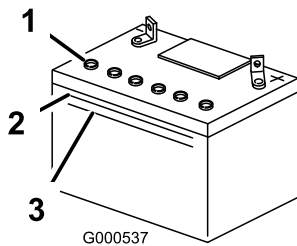

Figure 35
1. Look at the side of the battery. The electrolyte must be at the upper line (Figure 35).
Do not allow the electrolyte to fall below the lower line (Figure 35).
3. Remove the vent caps from the battery (Figure 35).
4. Slowly pour distilled water into each battery cell until the electrolyte level is up to the upper line (Figure 35) on the battery case.
6. Add distilled water, if necessary, until the electrolyte level is up to the upper line (Figure 35) on the battery case.